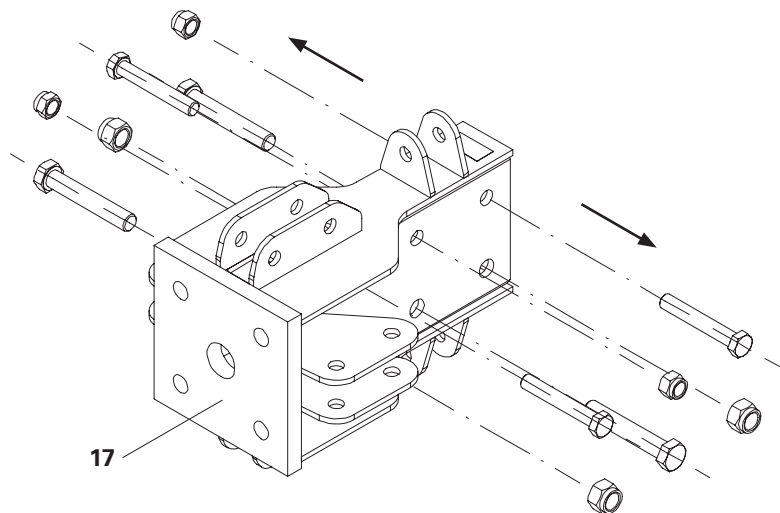

Fig. B2.02
1. Remove all 6 bolt connections from the prop base VST 48 (**17**). (Fig. B2.02)